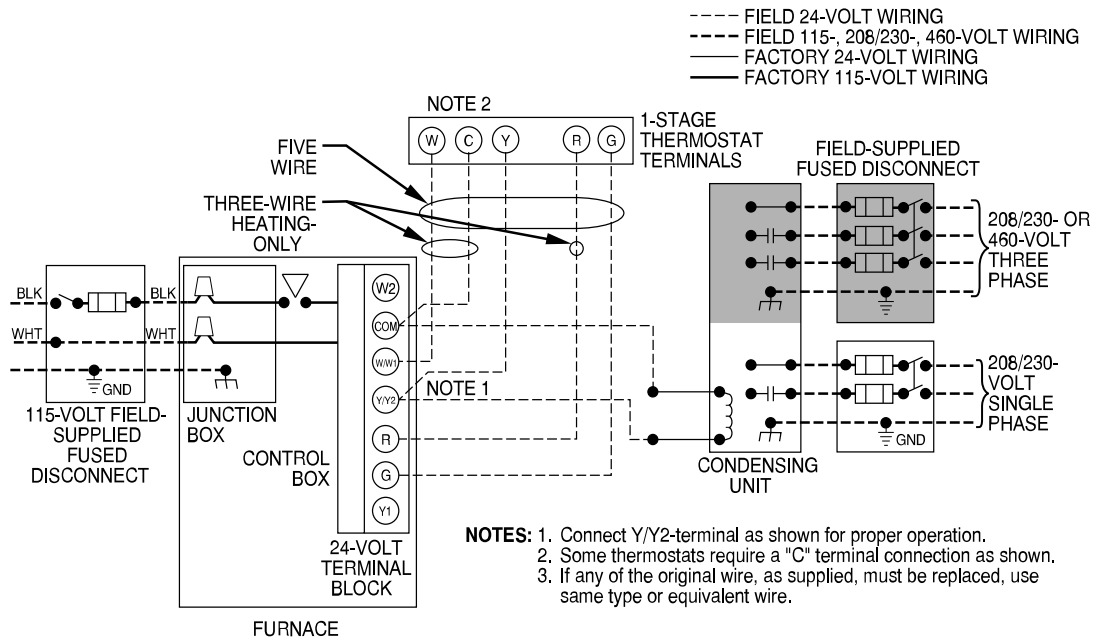
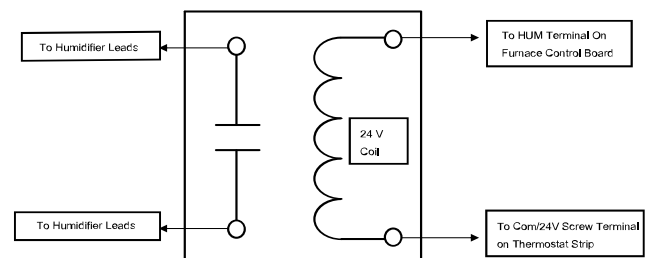
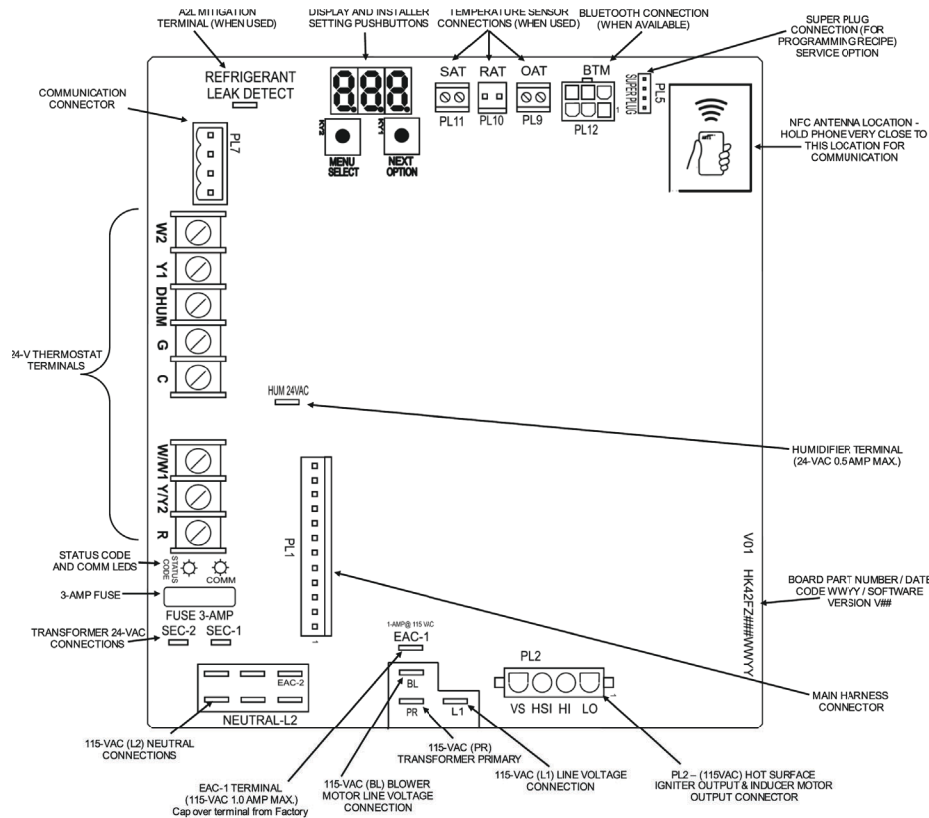

Fig. 34 – Typical Two-Stage Field Wiring Diagram
Fig. 38 – Field-supplied Isolation Relay for Humidifiers with Internal Power Supply
Fig. 39 – Example of Variable Speed Furnace Control
See Fig. 34 for field wiring diagram showing typical field 115V wiring. Check all factory and field electrical connections for tightness.
Use a separate, fused branch electrical circuit with a properly sized fuse or circuit breaker for this furnace. See Fig. 34 for wire size and fuse specifications. A readily accessible means of electrical disconnect must be located within sight of the furnace.
Verify that the voltage, frequency, and phase correspond to that specified on unit rating plate. Also, check to be sure that service provided by utility is sufficient to handle load imposed by this equipment. Refer to rating plate or Fig. 34 for equipment electrical specifications.
6. Connect power cord power and neutral leads to furnace power leads as shown in Fig. 34.
5. Connect field power and neutral leads to furnace power leads, as shown in Fig. 34.
Make field 24V connections at the 24V terminal strip. See Fig. 39. Connect terminal Y/Y2 as shown in Fig. 34 for proper cooling operation. Use only AWG No. 18, color-coded, copper thermostat wire.
The 24V circuit contains an automotive-type, 3A fuse located on the control. Any direct shorts during installation, service, or maintenance could cause this fuse to blow. If fuse replacement is required, use **ONLY** a 3A fuse of identical size. See Fig. 39.
ACCESSORIES (See Fig. 38 and Fig. 39)
NOTE: If the humidifier has its own 24VAC power supply, an isolation relay may be required. Connect the 24VAC coil of the isolation relay to the HUM and COM/24-V screw terminal on the control board thermostat strip. See Fig. 38.